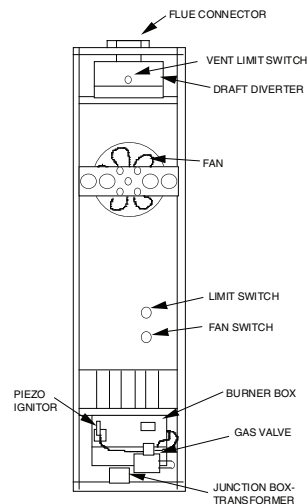

Figure 14
2. To check for line voltage to furnace, remove front panel and short across two-terminal fan control to allow fan to operate **Figure 14.**